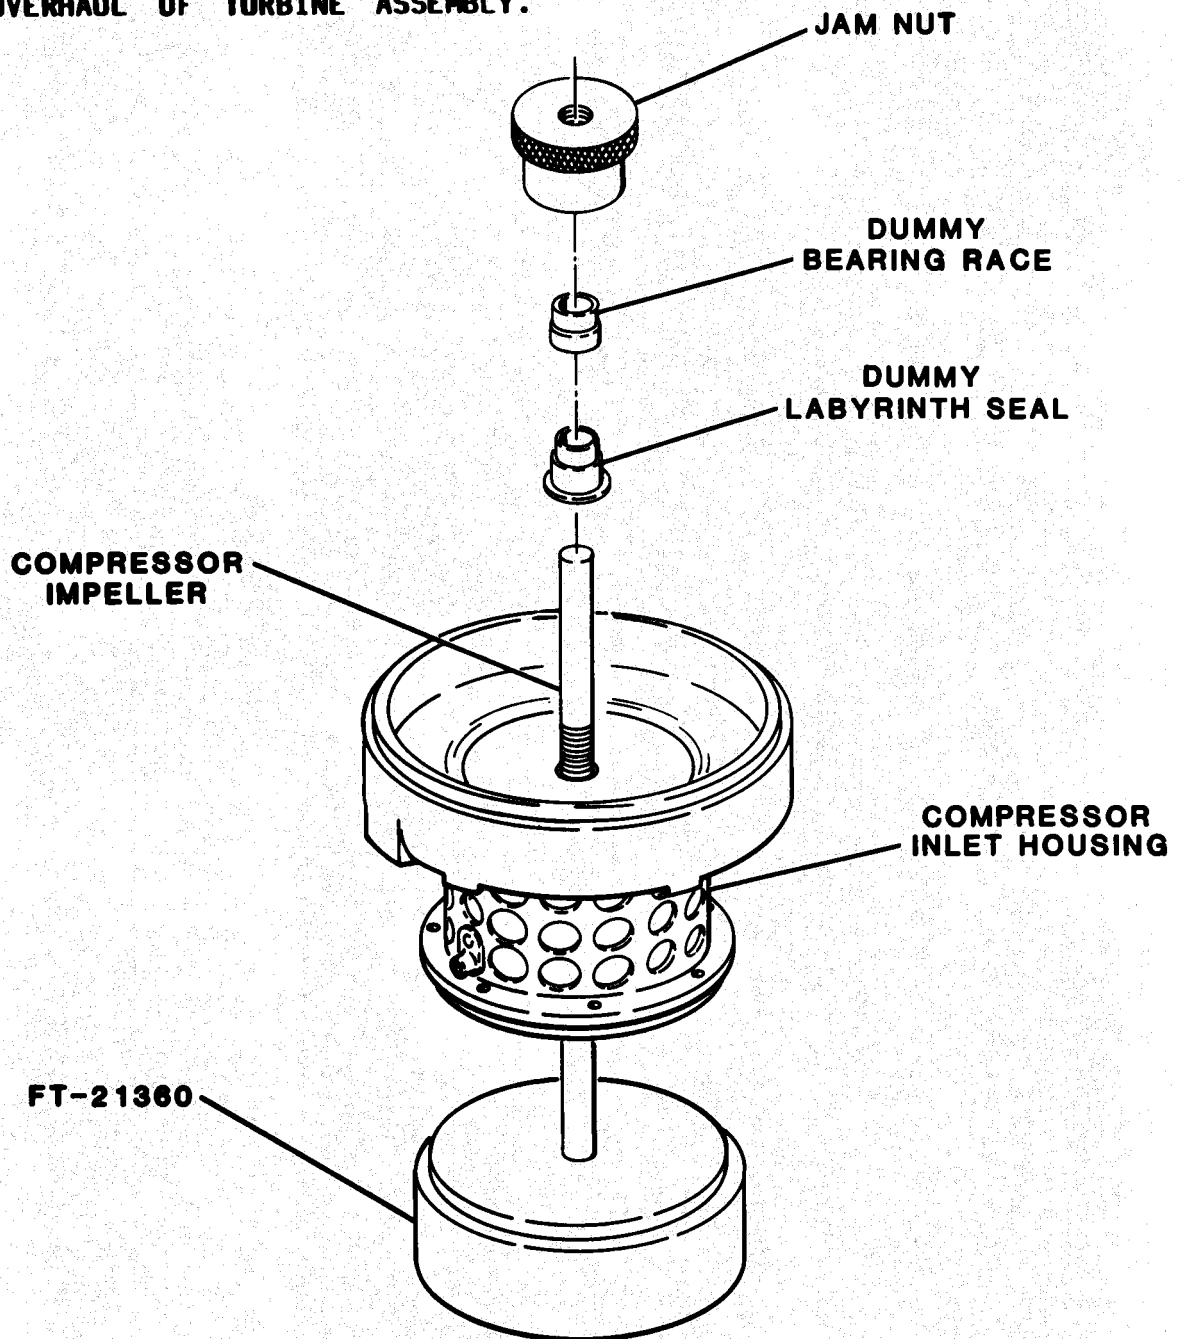

Figure 8-14. Measuring Compressor Impeller Vane Clearance Using Fabricated Tool FT-21360
(8) Place compressor inlet housing containing bearing carrier and compressor wheel on fabricated tool (FT-21360, Figure 8-14). Add dummy lab seal and Inner race of bearing to back of compressor Impeller Tighten jam nut just light enough to ensure that inserting wire gages does not tip compressor wheel.